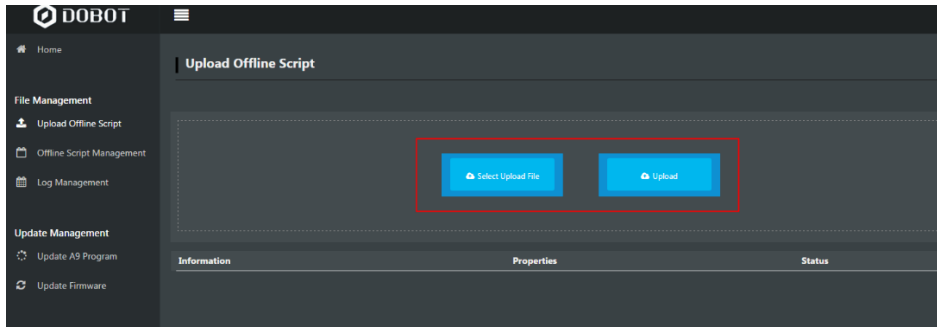

Figure 6.59 Upload script
2. Click **Tools > Web Management > Upload Offline Script** to upload the script to the main controller, as shown in Figure 6.59.